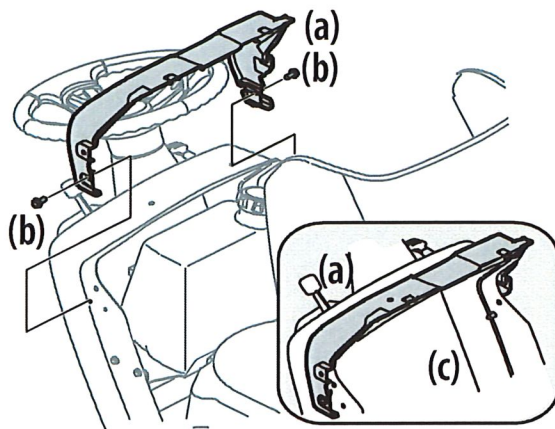

Figure 5
1. If the dash shroud (a) was shipped loose, the hardware for attaching the dash shroud (a) is shipped attached to the dash shroud (a). Remove the two bolts (b) from the dash shroud (a). See Figure 5.
2. Mount the dash shroud (a) and align the mounting holes between the top of the dash and the dash shroud. See Figure 5.
3. Secure the dash shroud (a) to the dash (c) with the bolts (b) removed in Step 1. See Figure 5.